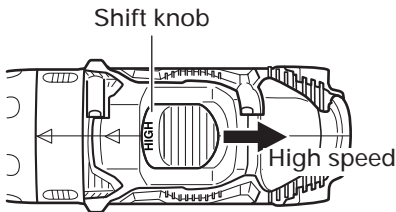

Fig. 18
- (1) Operate the shift knob to change the rotational speed. Move the shift knob in the direction of the arrow. (See Fig. 18 and 19)